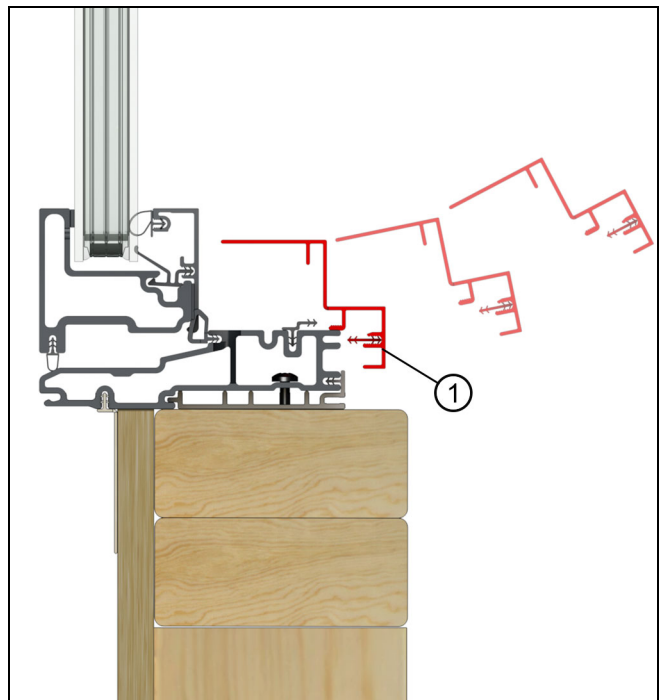

Figure 48
**3.** Install the sill cover last. Rotate the cover around the crank operator, then push it straight on. Avoid scratching the jamb covers. See Figure 48.